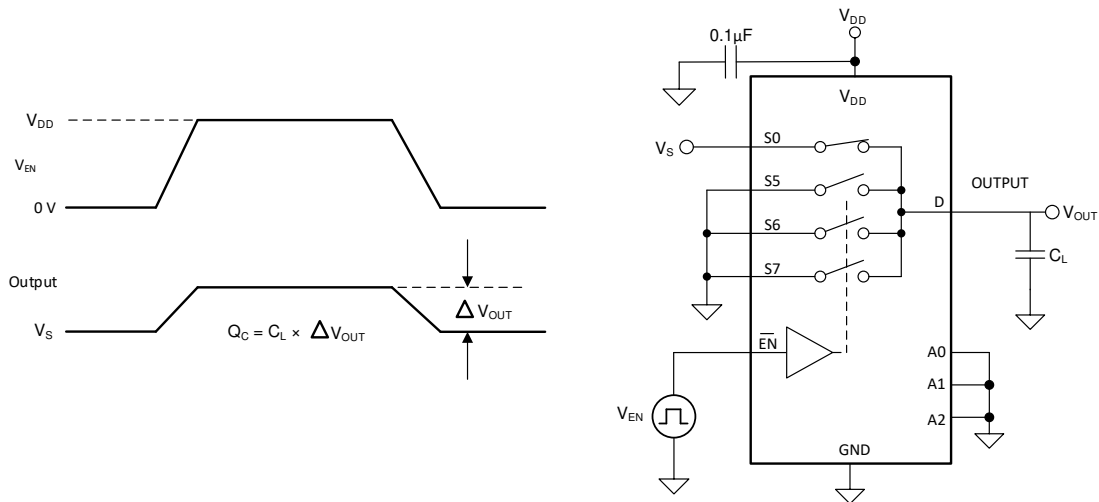

图 8-7. Charge-Injection Measurement Setup
The TMUX1308-Q1 and TMUX1309-Q1 device have a transmission-gate topology. Any mismatch in capacitance between the NMOS and PMOS transistors results in a charge injected into the drain or source during the falling or rising edge of the gate signal. The amount of charge injected into the source or drain of the device is known as charge injection, and is denoted by the symbol  $Q_C$ . 图 8-7 shows the setup used to measure charge injection from source ( $S_x$ ) to drain (D).